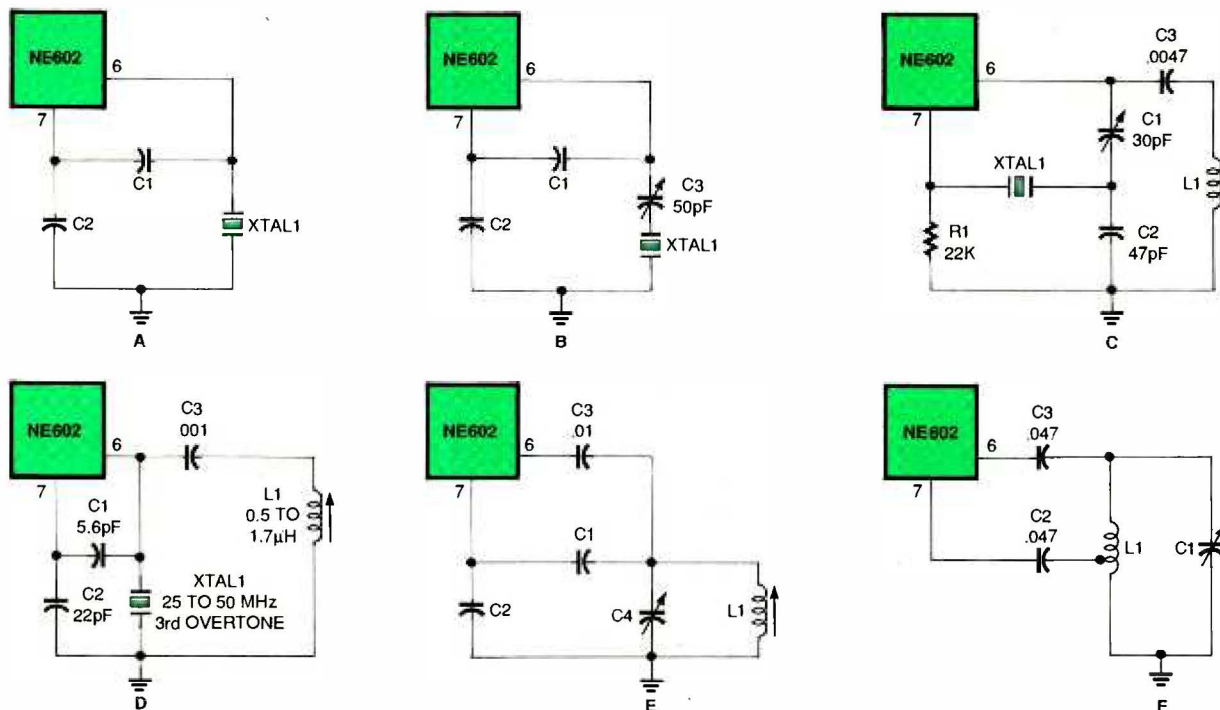

Fig. 7. The local oscillator for the NE602 can take the form of either a crystal-controlled (a through d) or a resonant-tank circuit (e and f).
Figure 7-a shows a basic Colpitts crystal oscillator. It will operate with fundamental-mode crystals on frequencies up to about 20 MHz. The feedback network consists of a capacitor voltage divider (C1/C2). The values of those capacitors are critical, and should be approximately:
A problem with the circuit of Fig. 7-a is that the crystal frequency is not controllable except by replacing the crystal. The actual operating frequency of any crystal depends, in part, on the circuit capacitance seen by the crystal. Most crystals are designed for load capacitances of 20 or 32 pF, but
that can be specified if crystals are being ordered directly from a manufacturer. In Fig. 7-b, a variable, or "trimmer" capacitor is placed in series with the crystal in order to set the frequency. The trimmer capacitor can be adjusted to set the oscillator to the desired frequency.
Figures 7-c and 7-d are overtone-mode crystal-oscillator circuits. The circuit in Fig. 7-c is a Butler oscillator. The overtone crystal is connected between the oscillator emitter of the NE602 (pin 7) and a capacitive voltage divider that is connected between the oscillator base (pin 6) and ground. There is also an inductor in the circuit (L1) that must resonate with C1 to the overtone frequency of crystal XTAL1. Figure 7-c can use either 3rd- or 5th-overtone crystals up to about 80 MHz. The circuit in Fig. 7-d is a third-overtone crystal oscillator that works from 25 to about 50 MHz, and is simpler than Fig. 7-c.
A pair of variable-frequency oscillator (VFO) circuits are shown in Fig. 7-e and 7-f. The circuit in Fig. 7-e is a Colpitts-oscillator version, while Fig. 7-f is a Hartley-oscillator version. In both
oscillators, the resonating element is an inductor-capacitor (LC) tuned-resonant circuit. In Fig. 7-e, however, the feedback network is a tapped-capacitor voltage divider, while in Fig. 7-f it is a tap on the resonating inductor. In both cases, a DC-blocking capacitor to pin 6 is needed in order to prevent the oscillator from being DC grounded through the resistance of the inductor.